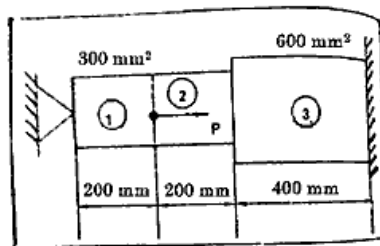

Fig. 12(a)
12. (a) For the bar element as shown in the Fig. 12(a). Calculate the nodal displacements and elemental stresses.